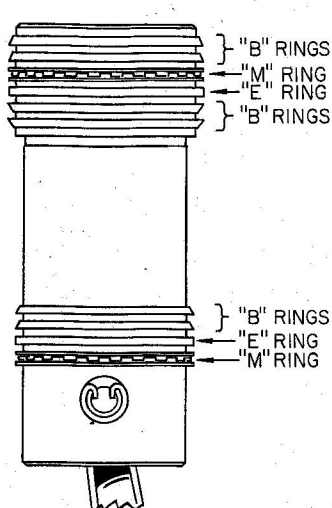
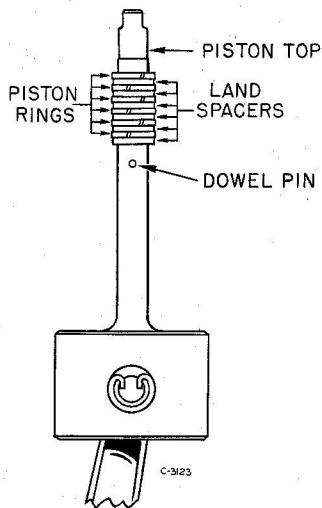

Figure 3-3. Double Acting 1st & 2nd Stage Piston
Figure 3-4. Built-up 4th Stage Piston
(B) Pull the old rings off the 1st and 2nd stage double-ended piston. See Figure 3-3. Remove the rings from the 4th stage steeple piston by driving out the dowel pin and unscrewing the piston top. See Figure 3-4. The rings and spacers may then be pulled off the center bolt.
piston, lubricate the ring grooves and replace the rings with a piston ring expander to avoid breakage and distortion. The "B", "E" and "M" type rings are to be installed in the grooves as indicated in Figure 3-3. Work from bottom compression ring up on the top end of the piston and from the top compression ring down on the lower end. Note in Figure 3-3 the manner which the tapers are to be positioned.
The step seal rings of the second, third and fourth stages are marked for proper positioning in their ring grooves. The word "top", a white dot or similar marking must face the compression chamber. Caution then must be exercised in placement of the step seal rings labeled "E" on the second stage piston in Figure 3-3. The upper "E" ring will have its "top" mark facing the crankcase. On the lower "E" ring the marking will face away from the crankcase.
(G) To replace the rings of the 4th stage piston, first examine the spacers and make certain they are not worn or damaged. Next, insert the spacers and rings on the center bolt in the sequence shown in Figure 3-4. The small diameter groove spacers (not shown on the illustration) are inserted on the center bolt inside the piston rings. With all rings and spacers in place, return the center bolt to the piston; tighten it and replace the dowel pin. After the center bolt has been tightened, check to make certain that each ring has a slight freedom of movement (as opposed to extreme rigidity which may occur if the rings are pinched by the spacers).